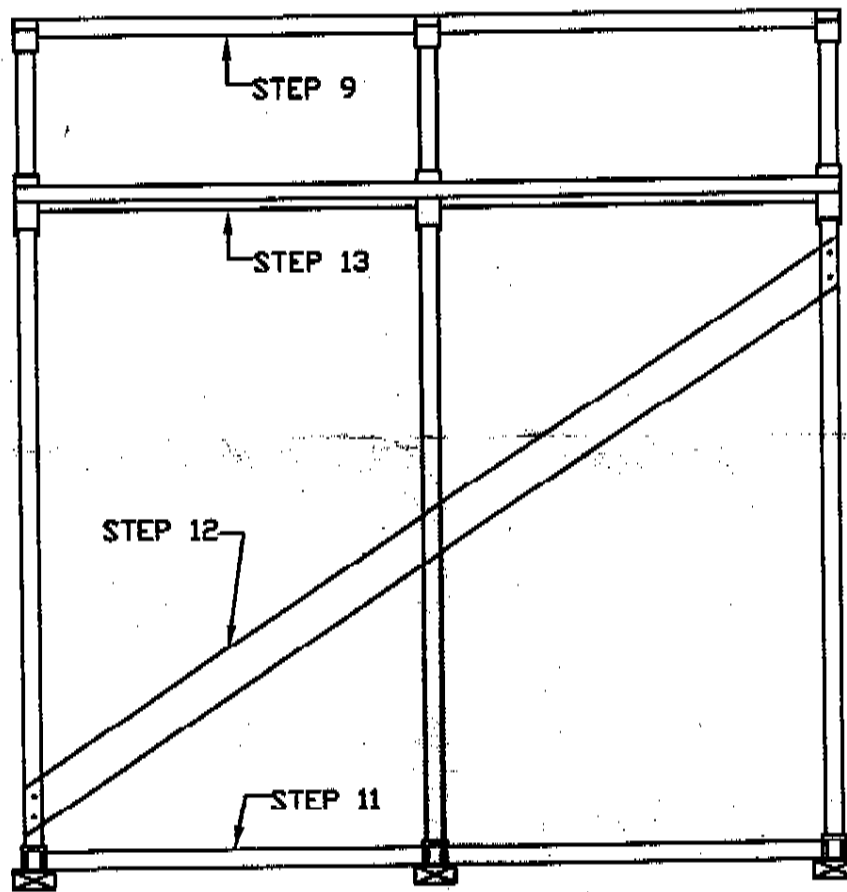

FIG 1-5
13. After bracing is attached, remove temporary support boards and attach the remaining two horizontal boards in the outer angle connectors. Fig 1-5